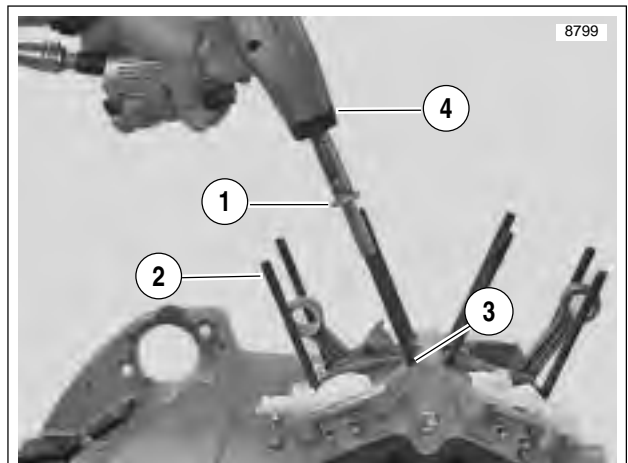

**Figure 3-155. Sprocket Shaft Seal/Spacer Installer
8. See Figure 3-155. Use SPROCKET SHAFT SEAL INSTALLER (Part No. B-45676) to install sprocket shaft seal.